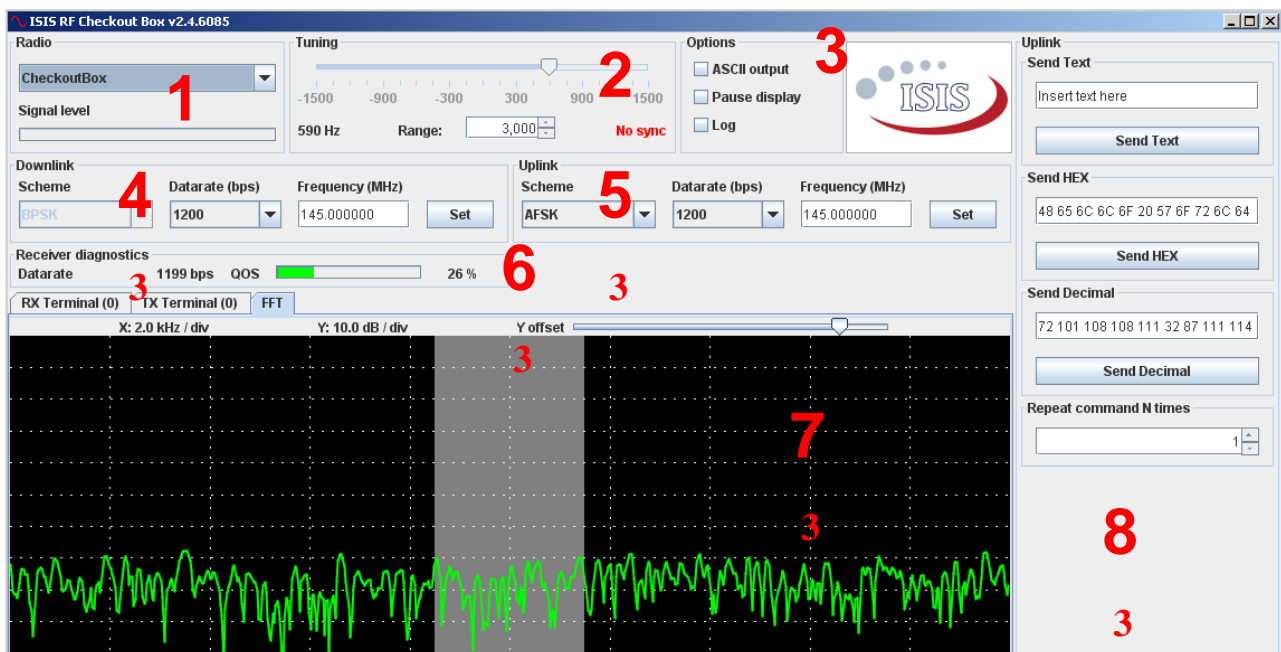

Figure 5-1 RF Checkout Box main window
The RF Checkout Box can be controlled through its GUI, which is depicted in Figure 5-1. The main available controls are highlighted in the figure and are better detailed in the next paragraphs.
- Input Source Selection** (item 1 in Figure 5-1): the top select box is used to select the desired input source. When a new source is selected the demodulator and modulator are restarted. The signal level indicator displays the input signal strength: if the indicator bar is red, the input signal is too weak or too strong for optimal operations, while a green bar indicates a good input level (the bar will be constantly changing depending on the received input power). The power indicator increases from left to right, so a full bar indicates a strong signal.
- Fine tuning** (item 2 in Figure 5-1): this control shows the actual reception frequency (relative to the radio centre frequency). The frequency information is computed by the demodulation loop and when the receiver locks on an input signal, a lock indicator is displayed (green indicator). A combo box is also available to narrow the receiver bandwidth in case reception is particularly difficult.
- **Options panel** (item 3 in Figure 5-1): the **ASCII Output** control is used to display packets in the Terminal window as ASCII characters instead of hexadecimal data. The **Pause Terminal** check-box can be used to stop incoming packets display in the Terminal window. The **Log** check-box instead enables packets logging (see Section 7 for details).
- **RX Channel settings** (item 4 in Figure 5-1): the **Modulation select** box allows selecting one among the available modulation schemes. The **Datarate select** box allows choosing the proper data rate. When a new modulation or data rate is selected the demodulator is restarted. The receiver centre frequency can be set by typing a new value (in MHz) in the text box and clicking the **Set** button.
- **TX Channel settings** (item 5 in Figure 5-1): the **Modulation select** box allows selecting one among the available modulation schemes. The **Datarate select** box allows choosing the proper data rate. When a new modulation or data rate is selected the modulator is restarted. The transmitter centre frequency can be set by typing a new value (in MHz) in the text box and clicking the **Set** button.
- **Link diagnostics** (item 6 in Figure 5-1): This section displays the measured data rate on the downlink channel and the estimated signal quality (see Section 5.3 for further details).
- **Display tab** (item 7 in Figure 5-1): This tab is a multi-function panel used to display a wide range of information regarding the received / transmitted packets and the input spectrum (see Section 5.2 for further details).
- **Uplink panel** (item 8 in Figure 5-1): this panel is used to send commands to the satellite. When a new command has been sent, it will also be displayed in the Terminal panel inside the Display tab.
The terminal panels are used to display the received and transmitted packets, as can be seen in Figure 5-3. This panel is used to display all the received and sent packets. The user can select to display the content of the packet in HEX or in ASCII on the **Option Panel** (item 3 in Figure 5-1). This panel keeps track of the most recent 100 received / transmitted packets.